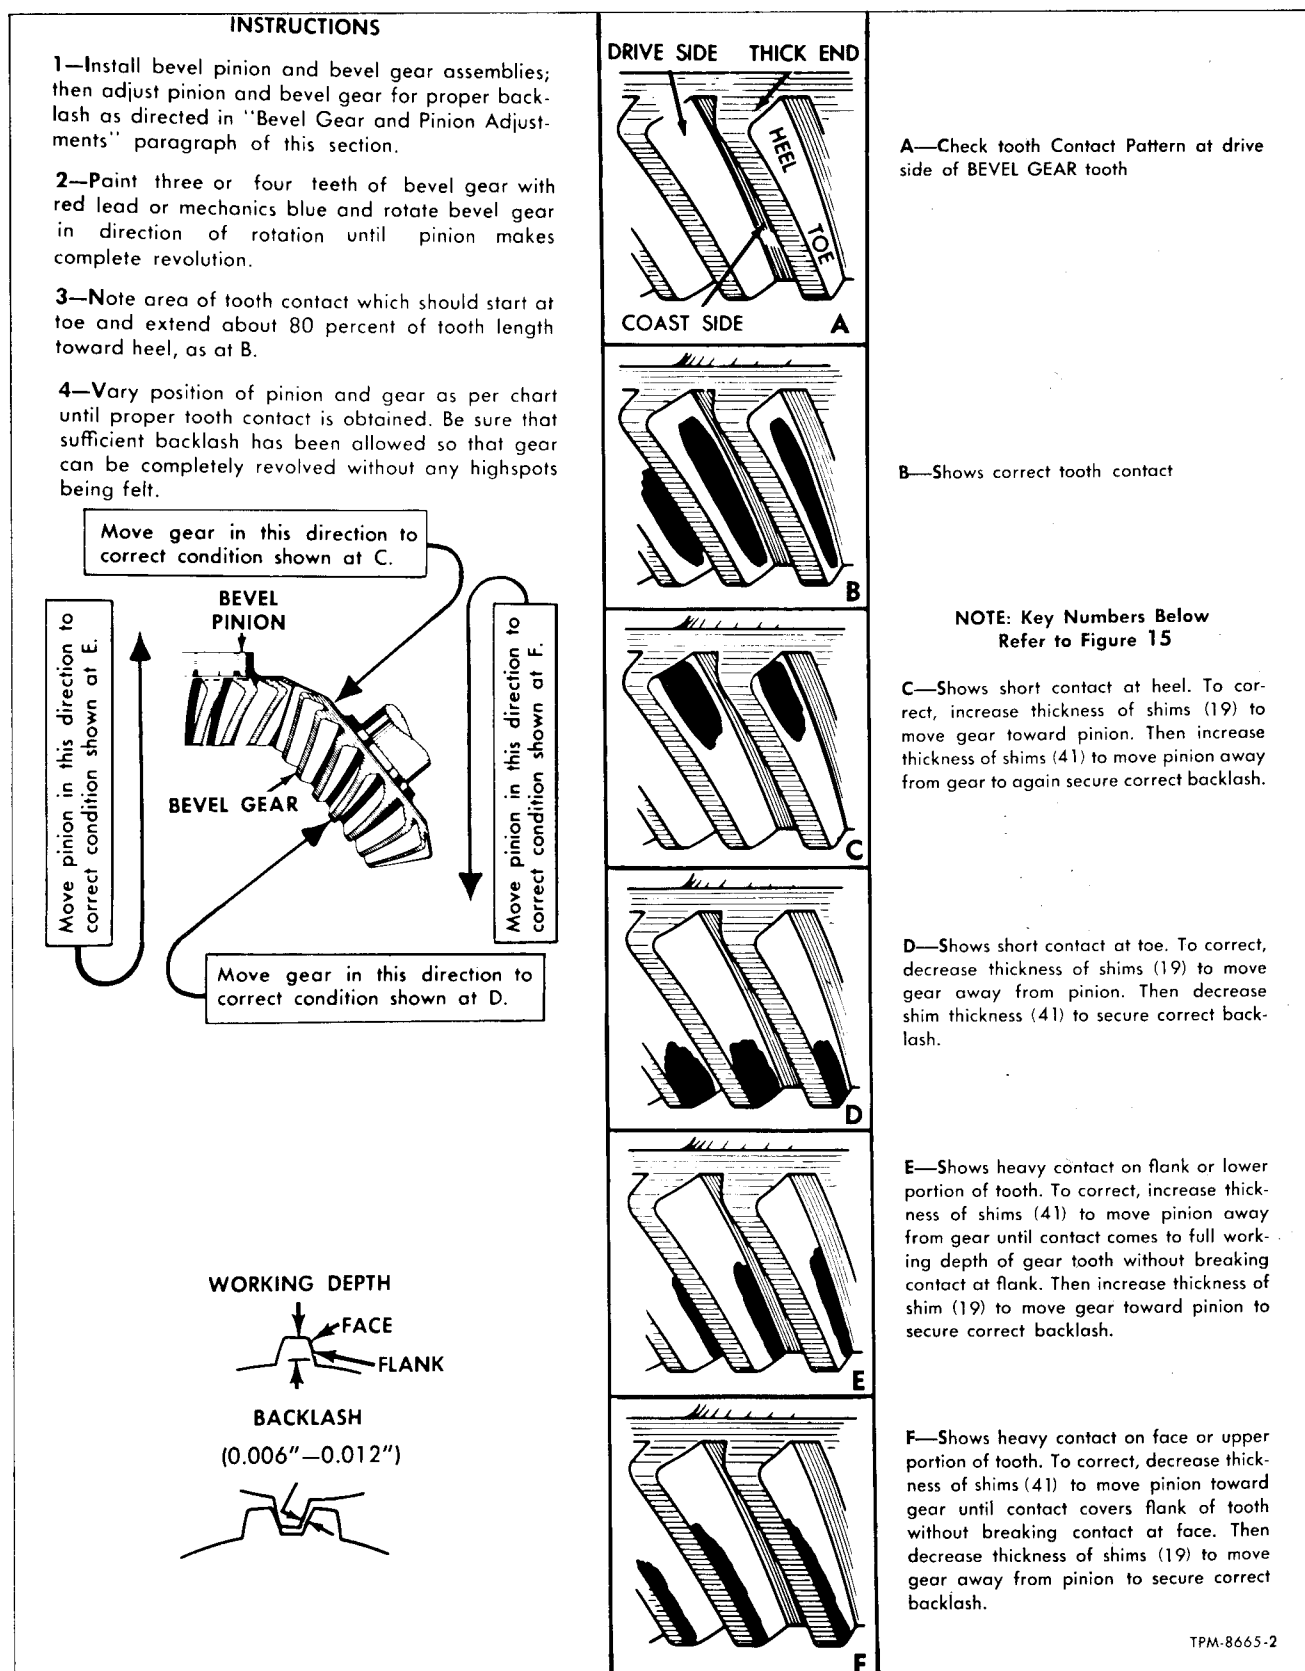

Figure 19—Gear Tooth Contact Chart
3. Check gear tooth contact. The outside shims (gaskets) in shim pack (19) are aluminum. These should be replaced with new parts when assembling transmission. Remove square head filler plug at top of housing above bevel gears. Use a suitable applicator and apply a thin even coat of red lead on bevel gear teeth. Rotate bevel pinion shaft in same direction as in normal operation, while applying tension at propeller shaft flange. After rotating gears to produce a clear contact impression at drive side of bevel gear teeth (fig. 19), observe contact area through filler plug hole.
a. Tooth contact impression should start at toe of tooth and extend back about 80% of tooth length toward heel on drive side of tooth. Contact should be distributed evenly over flank of tooth indicating center of contact below pitch line. Refer to diagrams "A" and "B" in figure 19.
b. If tooth contact is short and too far out on heel of tooth (diagram "C" figure 19), increase
c. If tooth contact extends back from toe appreciably less than 80% of tooth length (diagram "D" fig. 19), move gear (18) away from pinion (5) by decreasing shims (19). Restore backlash by decreasing shims (41).
d. If contact is low on flank of tooth (see diagram "E" fig. 19), move pinion (5) away from gear (18) by increasing shims (41). Restore backlash by increasing shims (19).
e. If contact is high on face of tooth (diagram "F" fig. 19), move pinion (5) toward gear (18) by decreasing shims (41). Restore backlash by decreasing shims (19).
5. After tooth contact and backlash have been adjusted, install bearing cap assembly (31) using new gasket (20).